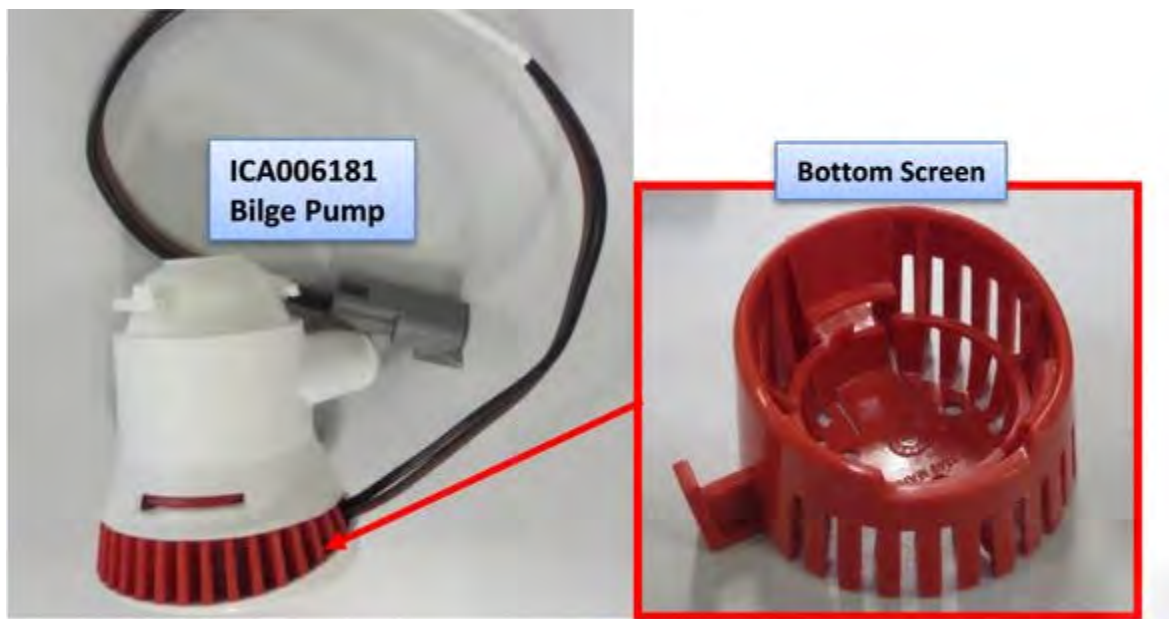

FIGURE 6-6
2. Remove bottom strainer from bilge pump. (See Figure 6-6.)